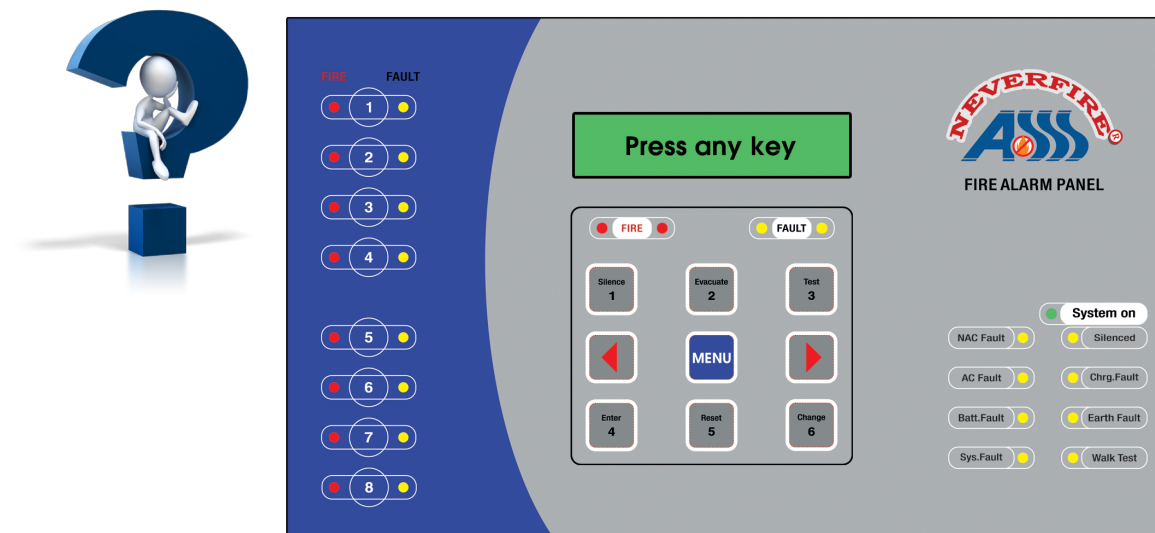

Fig.11 TESTING
- All LED indicators should be activated as in (Fig.11).